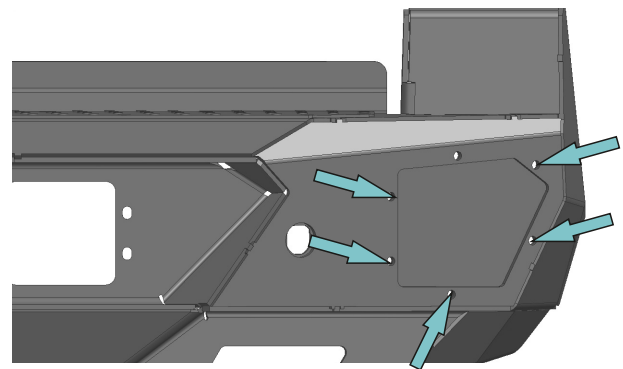

Fig. 22
22. Hammer out knock-outs for installation of radar plugs (item 10) on the bumper body (item 1) (Fig.22).